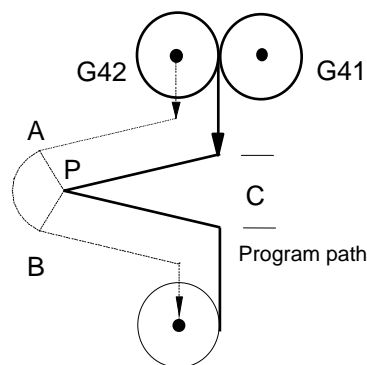

Fig. 3-54
6. If the corner is shaped like an arrowhead (Fig. 3-54), outside corner cutting will be correct. The correctness of cutting on the inside corner depends on the length of opening C . If the length is less than the tool diameter, no cutting is possible and an over-cutting alarm is generated. If it is greater than the tool diameter, the tool cuts toward the inside corner. However, part of the work-piece cannot be cut in the sharp inside corner. .